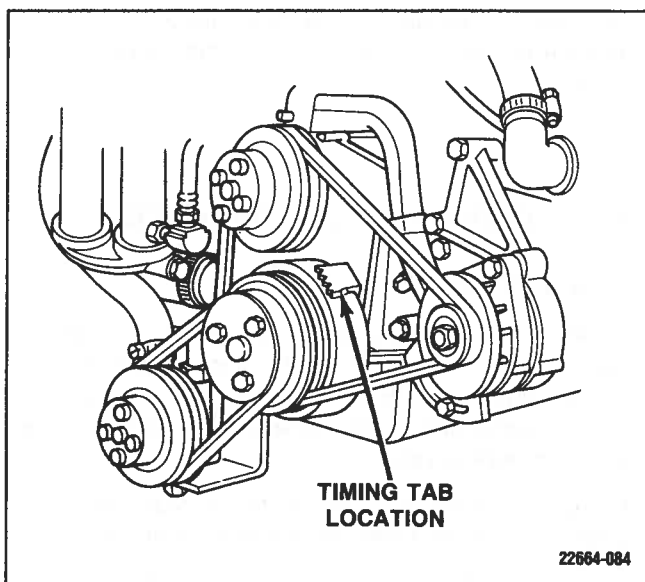

Figure 4-3. Engine Timing Tab
4. Aim the timing light at the timing tab located on the timing gear cover and at the crankshaft harmonic balancer (Figure 4-3).
4. Aim timing light at timing tab, located on timing gear cover (Figure 4-3).